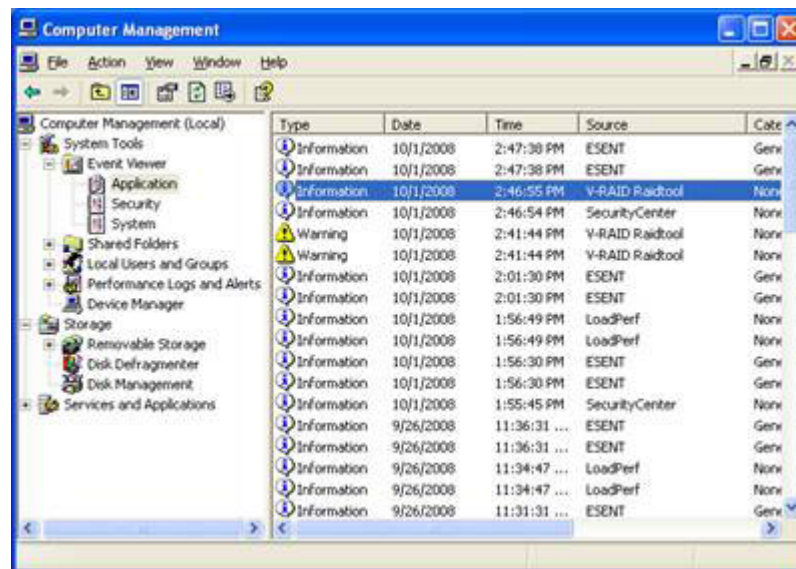

Figure 11. Windows Application Event Log
- Events are logged to the Windows Application Event Log (see Figure 11)